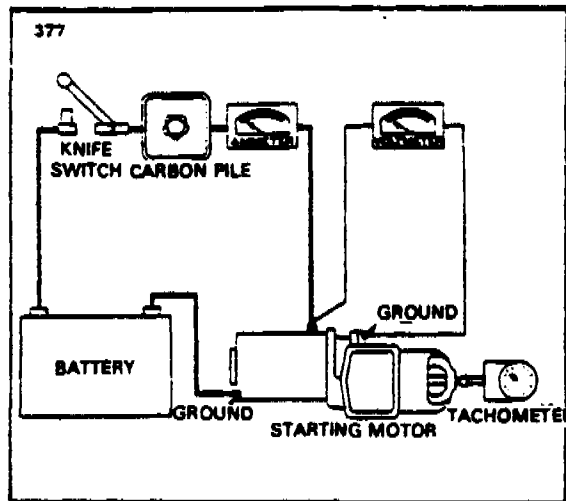

FIGURE 9-29e. NO-LOAD TEST HOOKUP
a. After the starting motor is reassembled, it should be tested to see that the no-load current at a certain voltage is within specifications as given in paragraph 9-90. To make this test, connect as shown in Figure 9-29e. If current is too high, check the bearing alignment and end play to make sure there is no binding or interference. Two or three sharp raps on the frame with a rawhide hammer will often help to align the bearings and free the armature.